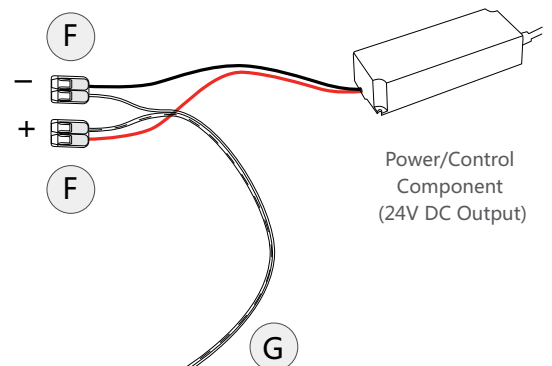

Figure 8
Power lead (G): Use the power lead (G) to route power from the power supply to a single sheet or a set of up to eight Light Sheets. See Figure 8.
Splicing connectors (F): are provided for convenient power connection to the supply wires. They can be used in place of wire nuts, securing wires of the same polarity together. The grey striped wire of the power lead (G) is positive (+) and the solid white wire is negative (-). See Figure 8.